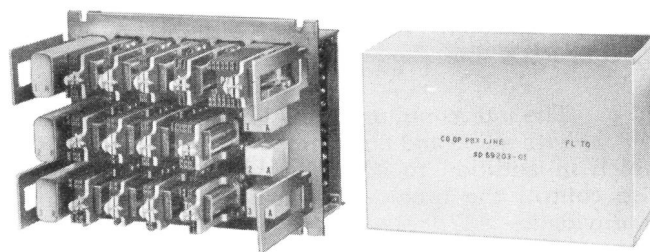

FIG. 5 — 1A1 KEY TELEPHONE SYSTEM, 212A KEY TELEPHONE UNIT
3.07 The 212A KTU is a basic equipment unit which features the components of three 202B (CO or PBX line circuit) and one 209A KTU (flashing and time out) on one mounting plate. When using this unit, as many as four separate 3-line systems of 1A1 equipment can be housed in a single 6-plate cabinet (see Fig. 5).